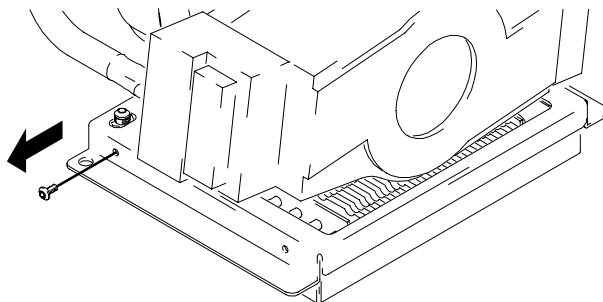

Fig. 18
5. Remove 4 set screws. Fig. 18.